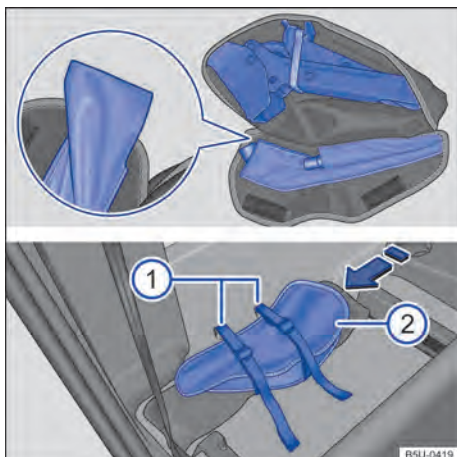

Fig. 160 Behind the passenger seat backrest: ① vehicle toolkit securing straps and ② vehicle toolkit bag.
- Fit the jack in the bag and fully close it → Fig. 160, with the jack base in the wider part of the bag.
- Fit the wheel wrench into its proper housing and ensure that the pawl → Fig. 160 (magnifying glass) is placed underneath the wheel wrench to prevent rattling when driving.
- Place the vehicle toolkit bag behind the passenger seat, on top of the warning triangle and through the fastening straps, as per → Fig. 160 in the direction of the arrow.
- For correct securing of the toolkit, position same with the velcro straps of the bag turned forward → Fig. 160 ②.